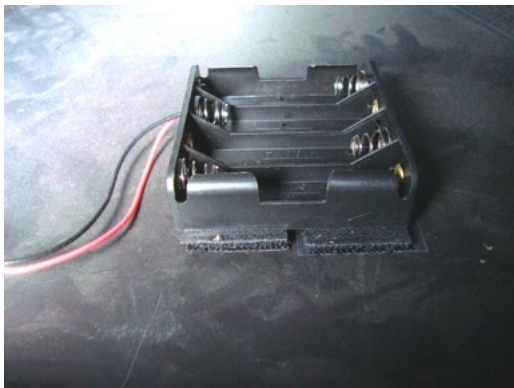

Figure 9 Battery holder
1. Secure the battery holder to the fireplace floor using the supplied velcro strips. See Figure 9.